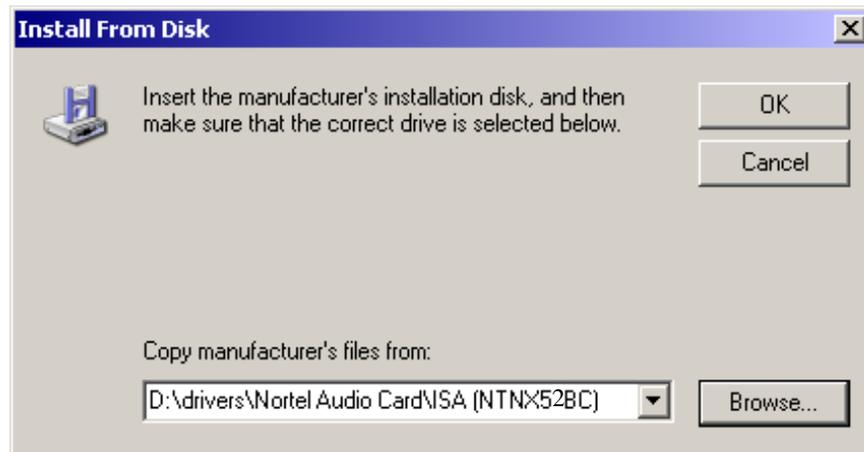

FIGURE 245. Install From Disk, driver directory
21. Select Open. The Install From Disk window will reappear with the location of the files as in Figure 245.